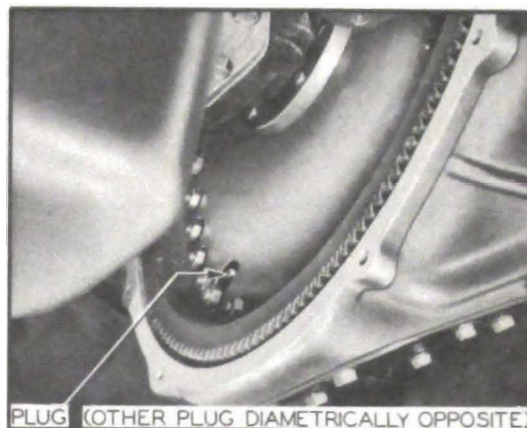

Figure 1-16—Converter Drain Plugs
2. Loosen one converter drain plug, through opening in flywheel, then turn flywheel until opposite drain plug is straight down and remove this plug to allow converter to drain completely. See figure 1-16.